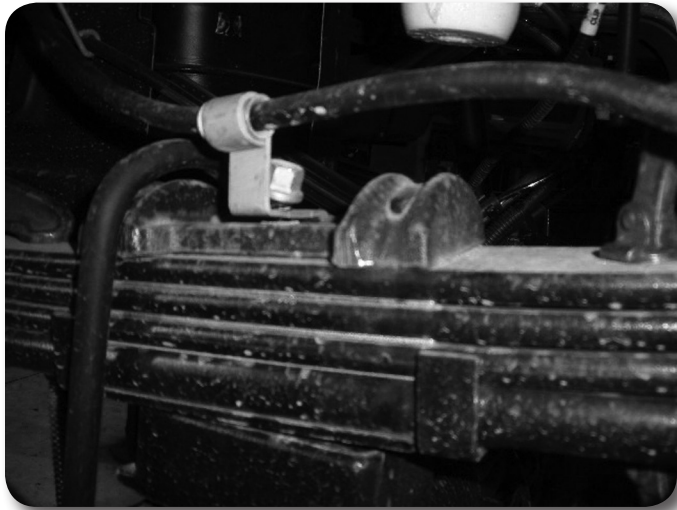

Figure 24
11. Repeat block installation of the driver's side. Take care not to over extend the brake lines. **Note:** The parking brake cable bracket will need to be removed from the spring center pin. Figure 24